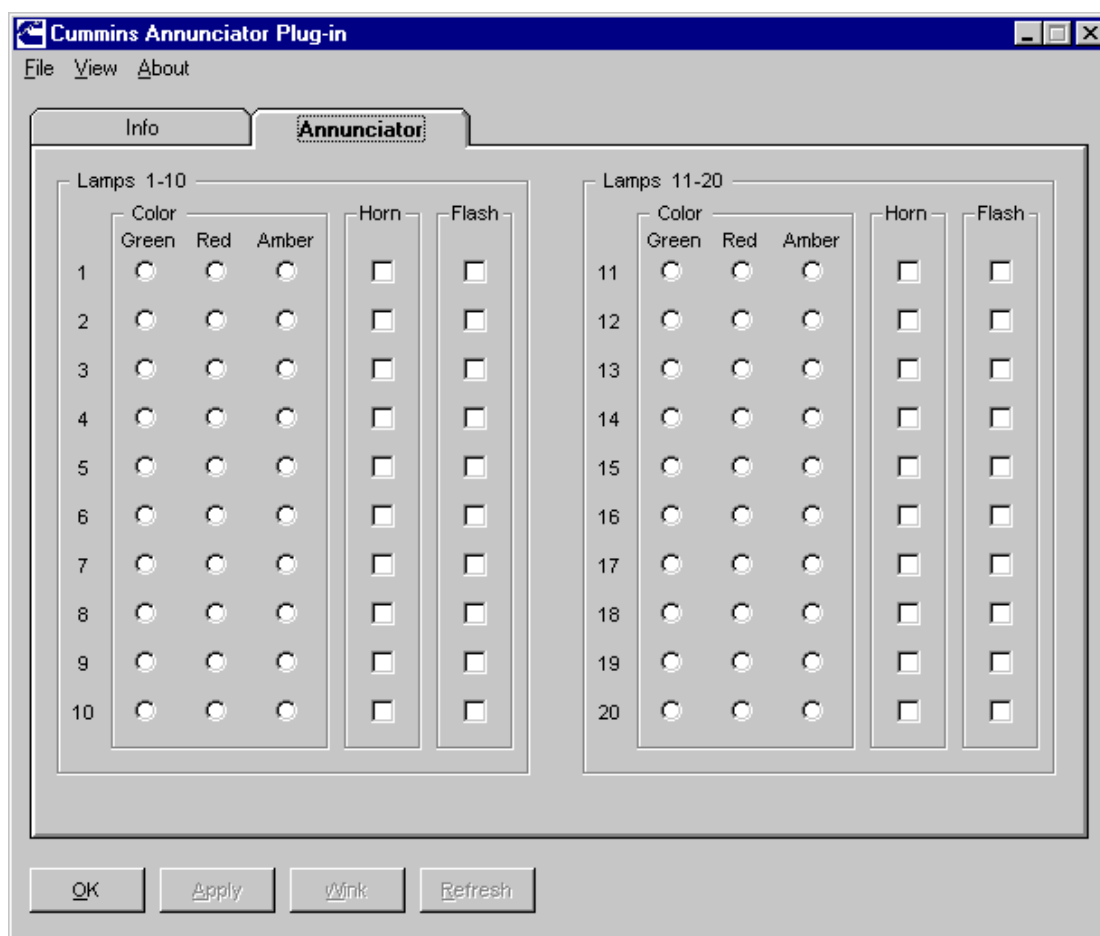

FIGURE 15-9. CONFIGURING ANNUNCIATOR LAMPS IN LONMAKER
The 20 Status lamps may be individually configured using the Annunciator Configuration Plug-In, which may be launched while running LonMaker. The lamps may be configured for *color*, *horn*, and *flash* (see Figure 15-9). To set or change a lamp's configuration in LonMaker:
3. Set "Color," "Horn," and "Flash" for each lamp (see Figure 15-9).